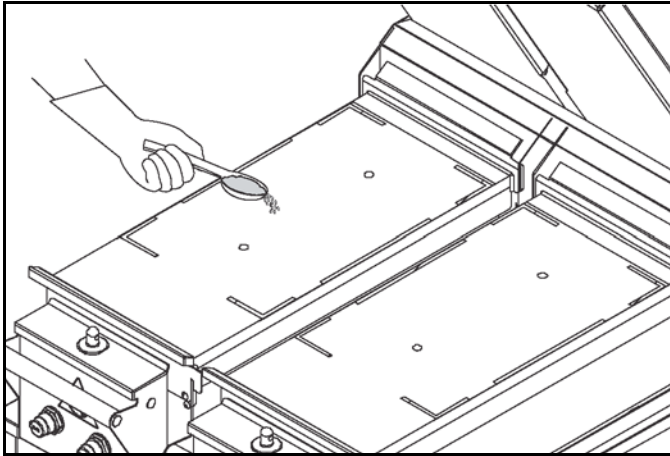

Figure-133
42. Using a sundae spoon, distribute two level spoonfuls of soy adhesion flakes over a warm 3 ft. (1 m) lower grill surface, allowing the flakes to melt. Spread on the cooking zone with a clean squeegee. See Figure-133.